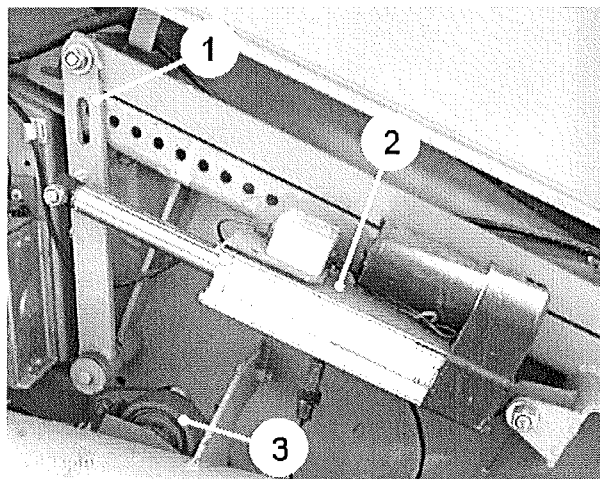

Fig 10
Control rollers positioned in front of the agitators raise/lower the web relative to the agitator thus controlling the amount of agitation imparted on the crop. To raise/lower the rollers, reposition the roller arm (item 1, figure 10) to align with a different hole. Raising the rollers will reduce agitation. The optional electric actuator (item 2, figure 10) is controlled by the buttons 'Agitation' raise  and lower . The agitator shafts can also be adjusted up and down by repositioning the shaft bearings (item 3, figure 10) into one of three different hole positions.